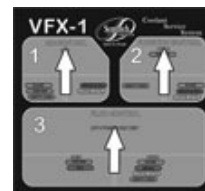

Figure 1
- 1) Verify all control panel valves are in neutral position. (Fig 1) Turn both flow control valves at hose end OFF.